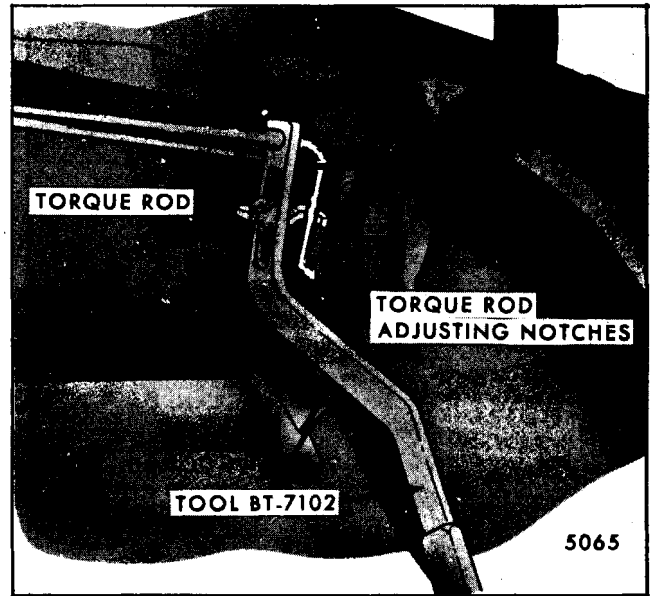

Fig. 8-16-Rear Compartment Torque Rod Adjustment—"X" Styles and Oldsmobile "E" Styles
- c. On "X" styles and Oldsmobile "E" styles, use tool BT-7102 or equivalent (Figure 8-16).